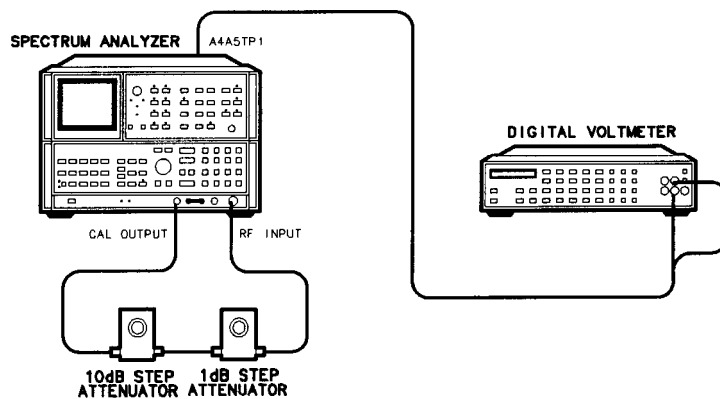

Figure 3-40. 21.4 MHz Bandwidth Filter Adjustments Setup
1. Position the spectrum analyzer upright as shown in Figure 3-40 and remove the IF-Display Section cover.
5. Connect spectrum analyzer CAL OUTPUT to RF INPUT through 1 dB and 10 dB step attenuators, as shown in Figure 3-40. Set step attenuators to 0 dB.